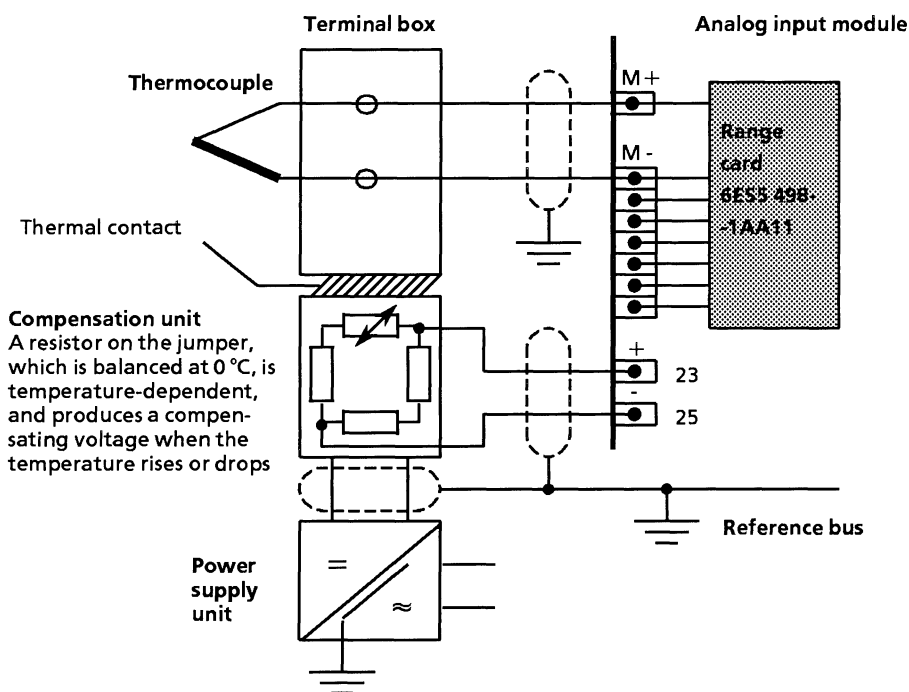

Figure 10-4 Connecting Thermocouples
- Apply compensating voltage to pins 23 and 25 (KOMP+ and KOMP-) on the analog input module (Figure 10-4)